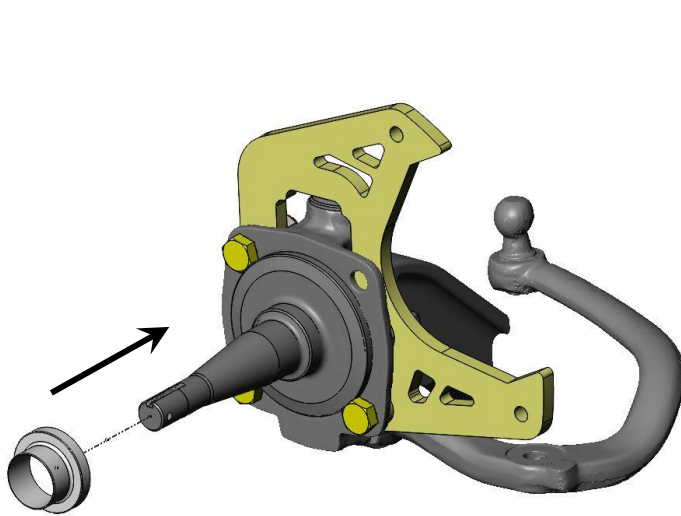

Figure 3a – Installing the Bearing Adapter (Driver Side Shown)
6. A bearing adapter must be installed on the spindle pin. This is required due to the diameter of the inner wheel bearing surface. To install the bearing, place the adapter on the spindle as shown in Figure 3a and 3b below. The bearing adapter can be installed using one of the two following methods: